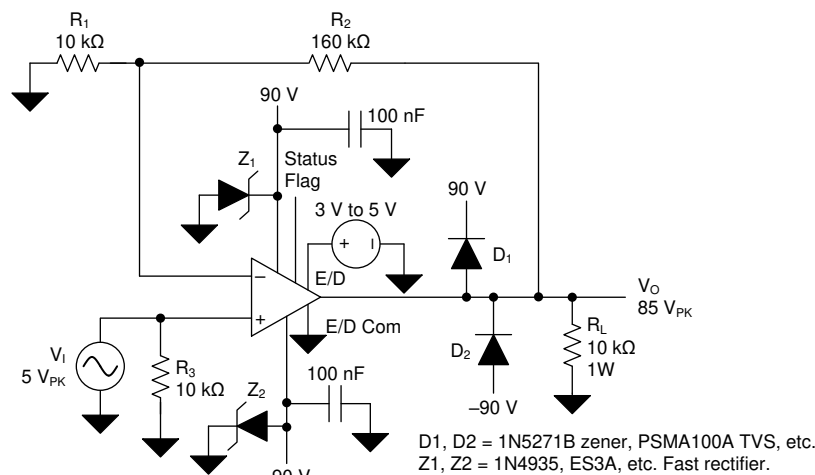

图 61. OPA462, High-Voltage Noninverting Amplifier, $A_V = 17$ V/V
The OPA462 high-voltage op amp can be used in commonly applied op amp circuits, but with the added capability of allowing for the use of much higher supply voltages. A very common application of an op amp is that of a noninverting amplifier with a gain of 1 V/V or higher. 图 61 shows the OPA462 in a noninverting configuration.
图 61 shows a noninverting circuit with a moderately high closed-loop gain (A_V) of 17 V/V (24.6 dB). In this example, a 5-V_{PK} ac signal is amplified to 85 V_{PK} across a $10\text{-k}\Omega$ load resistor connected to the output. The peak current for this application is 8.5 mA, and is well within the OPA462 output current capability. Higher output current, typically up to 30 mA, may be attained at the expense of the output swing to the supply rails. A $\pm 90\text{-V}_{DC}$ power supply is required for this configuration.
A potentially destructive mechanism is the back EMF transient that can be generated when driving an inductive load. D_1 , D_2 , Z_1 and Z_2 in 图 61 have been added to the basic OPA462 amplifier circuit to provide protection in the event of back EMF. If the voltage at the OPA462 output attempts to momentarily rise above $V+$, D_1 becomes forward-biased and clamps the voltage between the output and $V+$ pins. This clamp must be sufficient to protect the OPA462 output transistor. If the event causes the $V+$ voltage to increase the power supply bypass capacitor, Z_1 , or both, a Zener diode or a transient voltage suppressor (TVS) can provide a path for the transient current to ground. D_2 and Z_2 provide the same protection in the negative supply circuit.
The OPA462 noninverting amplifier circuit with a closed-loop gain of 17 V/V has a small-signal, -3-dB bandwidth of nearly 800 kHz. However, the large-signal bandwidth is likely of greater importance in a high-output-voltage application. For that mode of operation, the slew rate of the op amp and the peak output swing voltage must be considered in order to determine the maximum large-signal bandwidth. The slew rate (SR) of the OPA462 is typically $6.5\text{ V}/\mu\text{s}$, or $6.5 \times 10^6\text{ V/s}$. Using the 85-V_{PK} output voltage available from the circuit in 图 61, the maximum large-signal bandwidth is calculated from the slew rate formula. 公式 1, 公式 2 and 公式 3 show the calculation process.